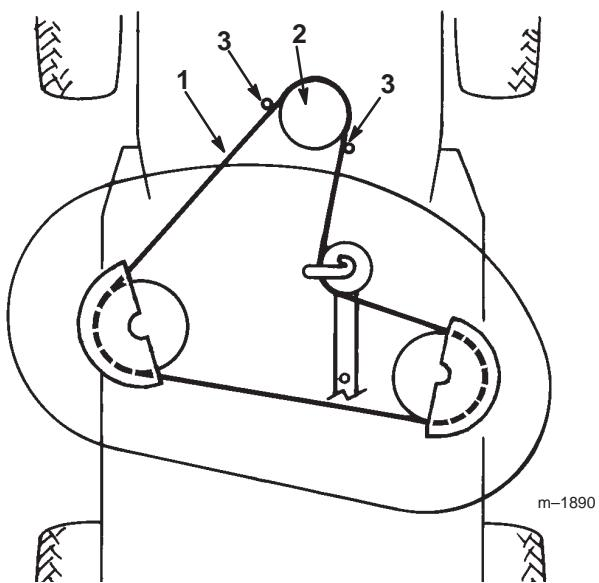

Figure 40
14. Remove the mower belt from the lower engine pulley (Fig. 40). If you are careful, you can flex the belt guide(s) just far enough away from the pulley to remove the belt. If it is too difficult to remove the belt, loosen the bolts and nuts securing the belt guides.
4. Install the mower belt onto the lower engine pulley (Fig. 40). If you are careful, you can flex the belt guide(s) just far enough away from the pulley to install the belt. If it is too difficult to install the belt, loosen the bolts and nuts securing the belt guides.